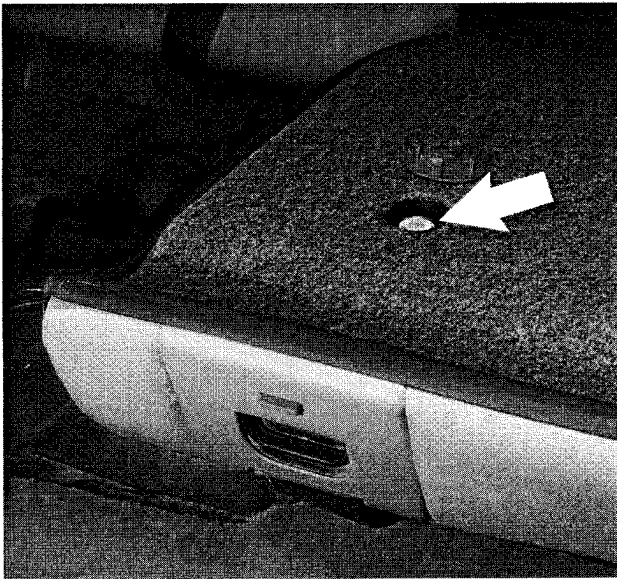

Fig. 10. Rear seat belt reel bolt (arrow).
6. Remove seat belt reel bolt and washer. See Fig. 10.